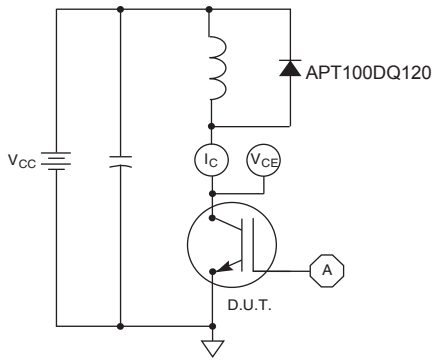

Figure 21, Inductive Switching Test Circuit
- ① Repetitive Rating: Pulse width limited by maximum junction temperature.
- ② For Combi devices,  $I_{ces}$  includes both IGBT and FRED leakages
- ③ See MIL-STD-750 Method 3471.
- ④  $E_{on1}$  is the clamped inductive turn-on energy of the IGBT only, without the effect of a commutating diode reverse recovery current adding to the IGBT turn-on loss. Tested in inductive switching test circuit shown in figure 21, but with a Silicon Carbide diode.
- ⑤  $E_{on2}$  is the clamped inductive turn-on energy that includes a commutating diode reverse recovery current in the IGBT turn-on switching loss. (See Figures 21, 22.)
- ⑥  $E_{off}$  is the clamped inductive turn-off energy measured in accordance with JEDEC standard JESD24-1. (See Figures 21, 23.)
- ⑦  $R_G$  is external gate resistance not including gate driver impedance.